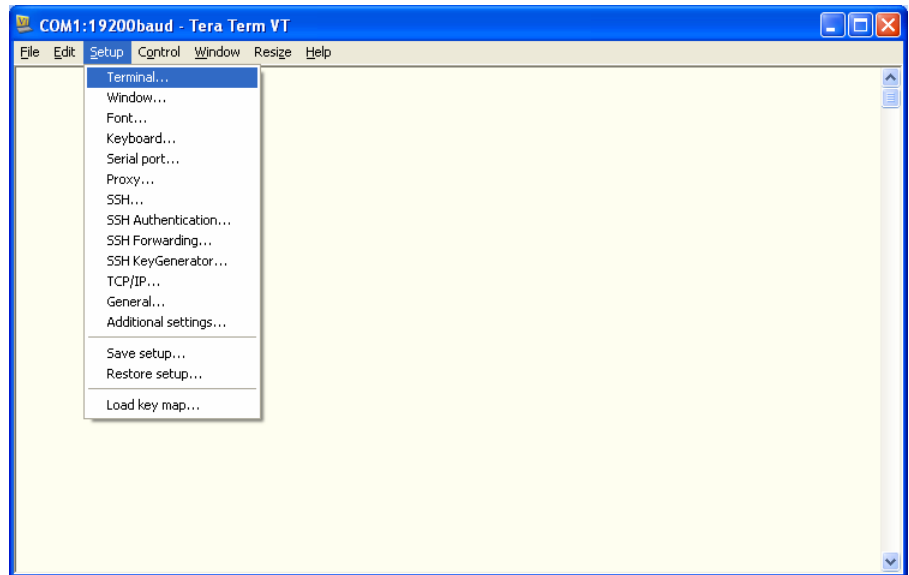

Figure 6-27: Selecting the Terminal Setup
21. Select **S**etup, then click **T**erminal (Figure 6-27).